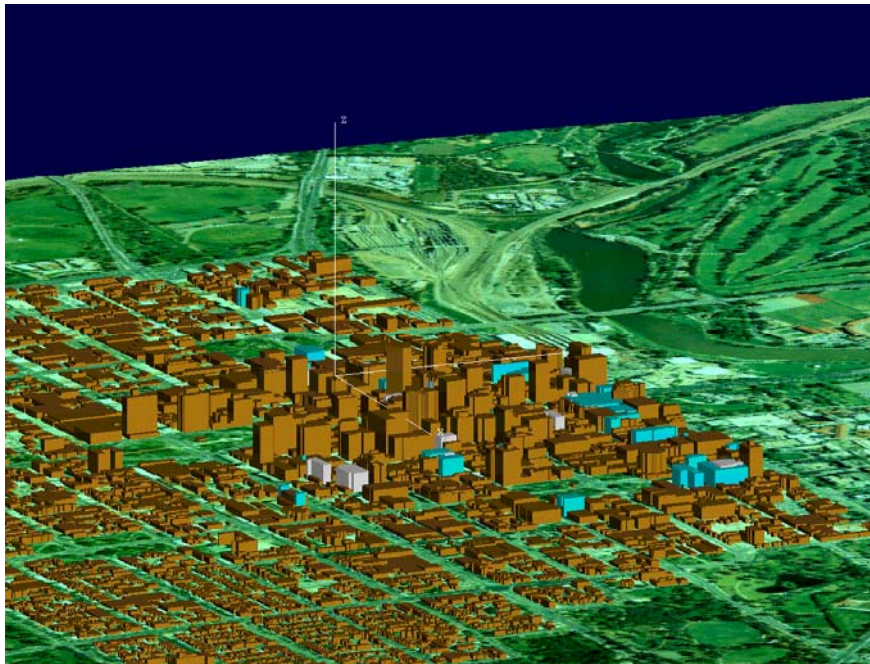

Figure 8: Aerial photograph draped on landscape triangulation and combined with 3D solid models of buildings from a city.
- Drape photographs over natural or rehabilitated terrain (Fig. 8);